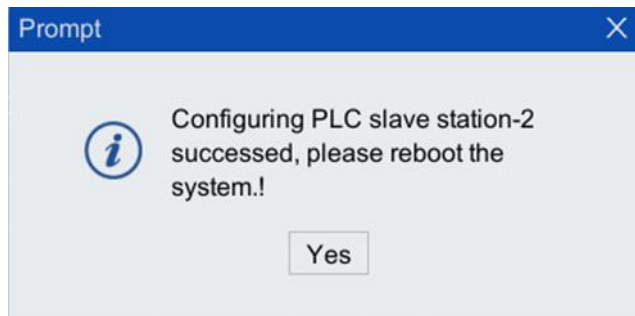

Figure2-15 Prompt dialog box
Step5. After the configuration is completed, click "Confirm", a prompt dialog box will pop up, and then click "Yes", the configuration will take effect after power off and restart, as shown in Figure2-15.